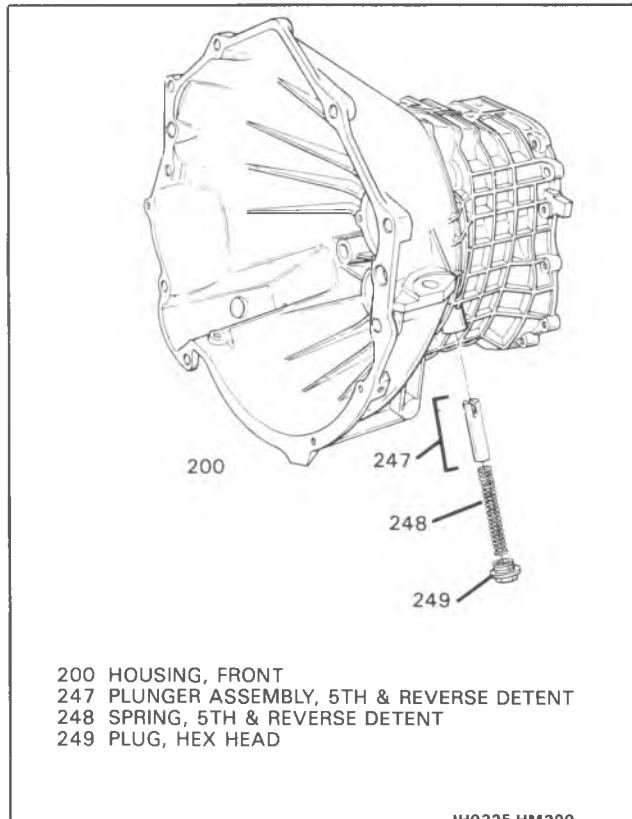

Figure 62 5th-Reverse Plunger Install
- Bolt (236) to $8.5 \text{ N}\cdot\text{m}$ (7 Lb. Ft.).
12. Bias load torsional spring (235) end back onto the shift shaft lever pin (231).
13. 5th-reverse plunger assembly (247), 5th-reverse detent spring (248), hex head plug (249) (Figure 62).